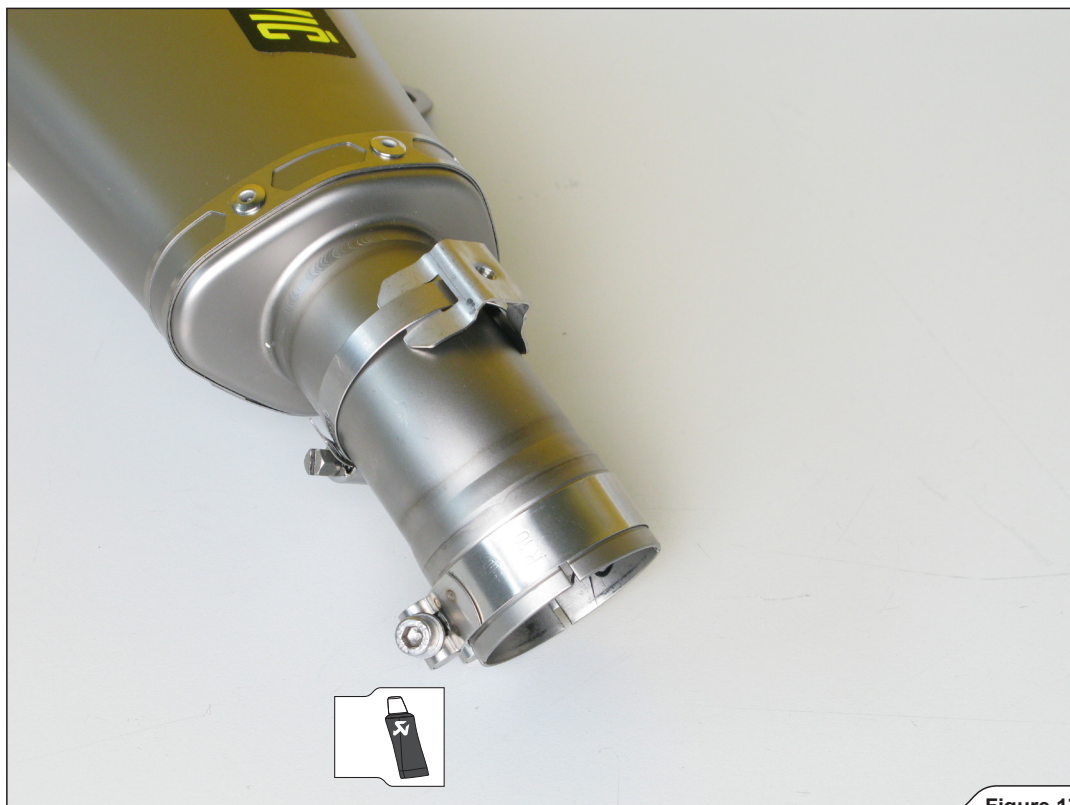

Figure 17
7. Install the metal clamp (R10) onto the muffler inlet bush and heat-shield bracket as shown (**Figure 17**).